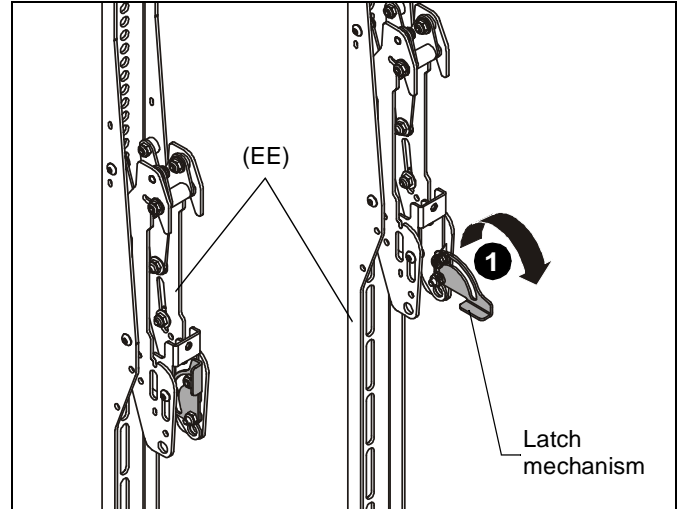

Figure 10
1. Lower the latch mechanism on each interface bracket (EE). (See Figure 10)
1. Ensure that the latch mechanisms on interface brackets (EE) are already lowered. (See Figure 10)